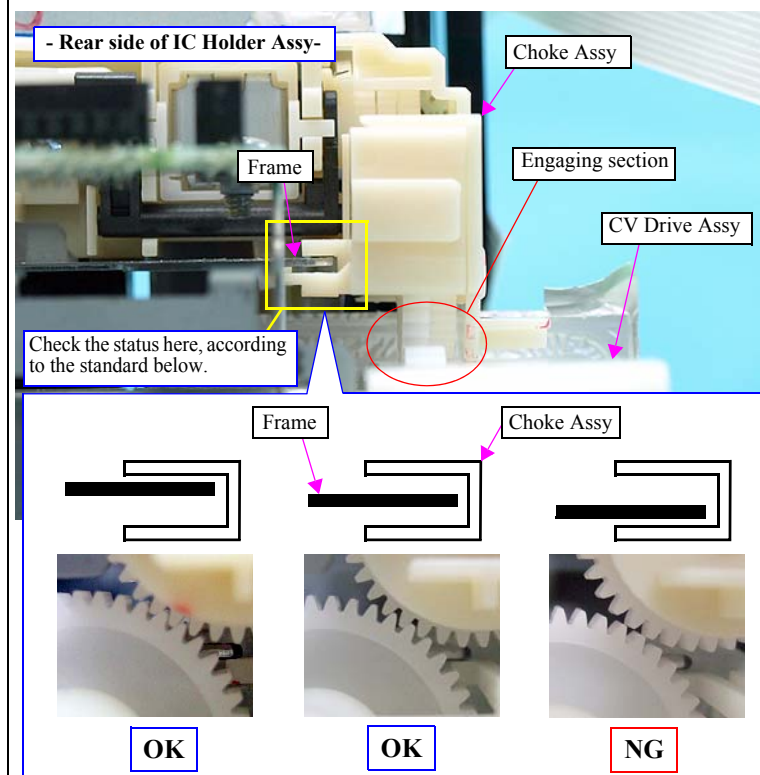
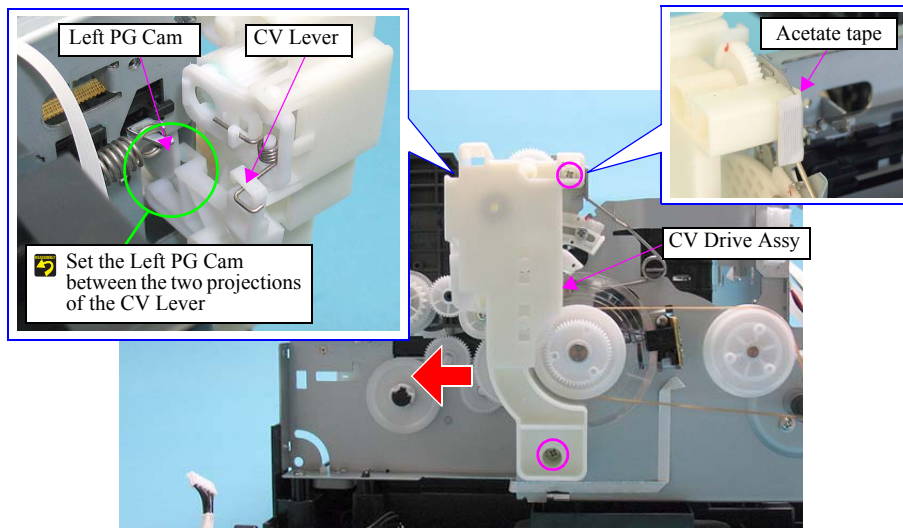

Figure 4-95. Check for Engagement of the CV Drive Assy and the Choke Assy
Figure 4-98. Removing the CV Drive Assy
6. Return to the step 3, and check the status according to the standard shown in Figure.4-95.
**NOTE:** If NG according to the standard shown in Figure.4-95, the reasons might be because the acetate tape (Figure.4-98) attached to the CV Drive Assy is folded and prevents the Choke Assy from staying in the right position. In such a case, unfold the tape taking care not to damage the Ink Tube, and secure the Choke Assy once again.
- Set the CV Lever of the CV Drive Assy as shown in Figure.4-98.